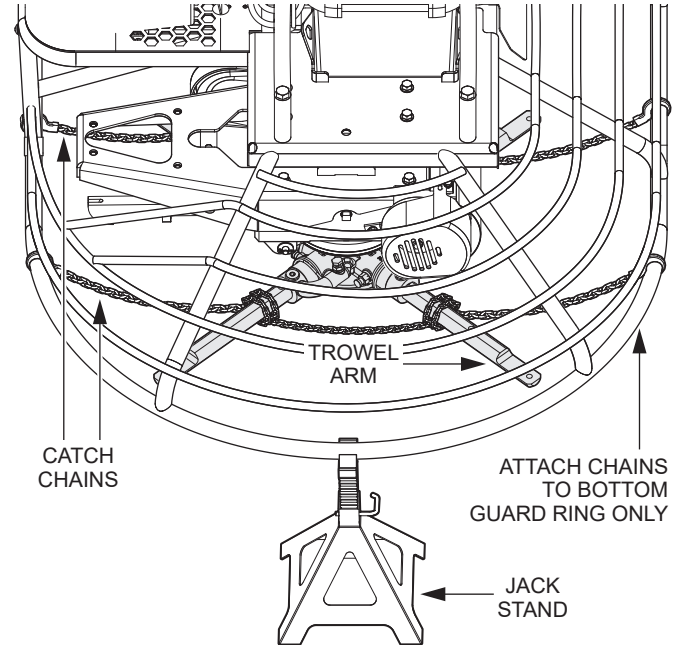

Figure 4. Preparing For Spider Removal — Machines Without A Stabilizer Ring
1. Place the trowel on **heavy-duty jack stands** (Figure 4) on secure, level ground in an area that is free of dirt and debris.
2. Remove the trowel blades and wrap **catch chains** or straps around the **trowel arms** (Figure 4). To prevent the spider assembly from swinging when it falls, **MAKE SURE** each catch chain wraps around **two** trowel arms as shown.